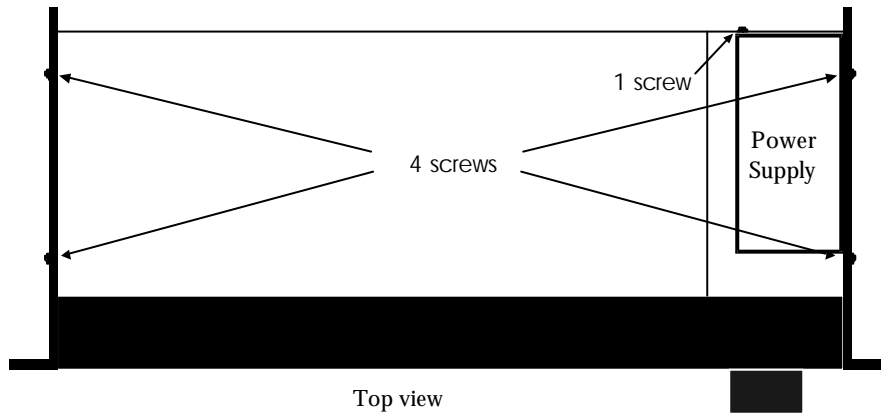

Fig. 6: Screws at side panels.
4. Loosen the front section by removing two small screws at each side panel, see fig. 6.
7. Dismount the power supply by removing the screw, just below the mains plug at the back panel, see fig. 6.